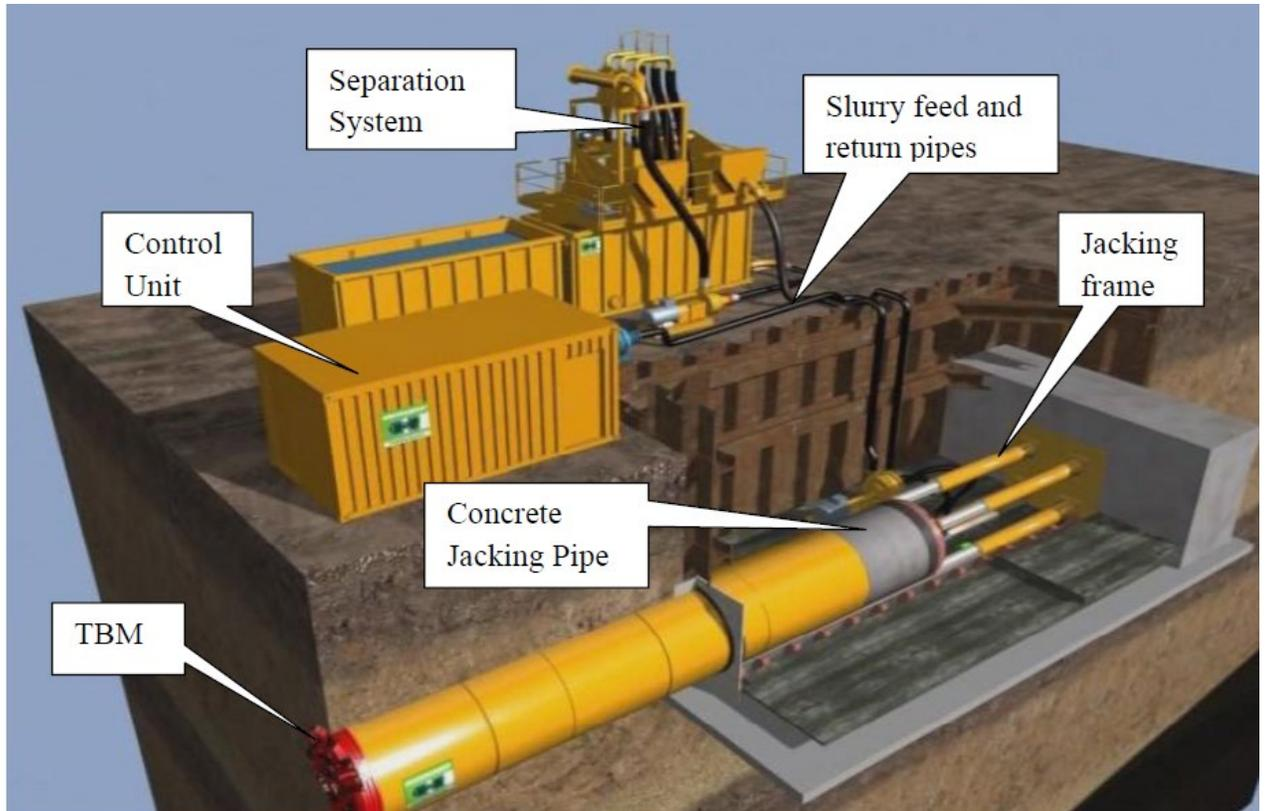

Figure 1: Schematic diagram of tunnelling equipment
- The AVN 1500 TBM has the advantage of being a closed face method of construction which significantly reduces the risk of losing the face stability. The TBM uses slurry pressure in conjunction with the jacking force to maintain tunnel face stability and prevent over excavation. The slurry pressures will be constantly monitored during the drive by both the tunnel operator and the engineering staff to ensure that the slurry pressure is meeting the in situ stresses acting on the face of the tunnel boring machine and therefore, preventing over excavation and the possibility of frac out. This method also has the advantage of the operator being above ground at the launch pit. A simple schematic diagram can be seen in Figure 1 and a description of the various tunnelling plant can be found in the following.